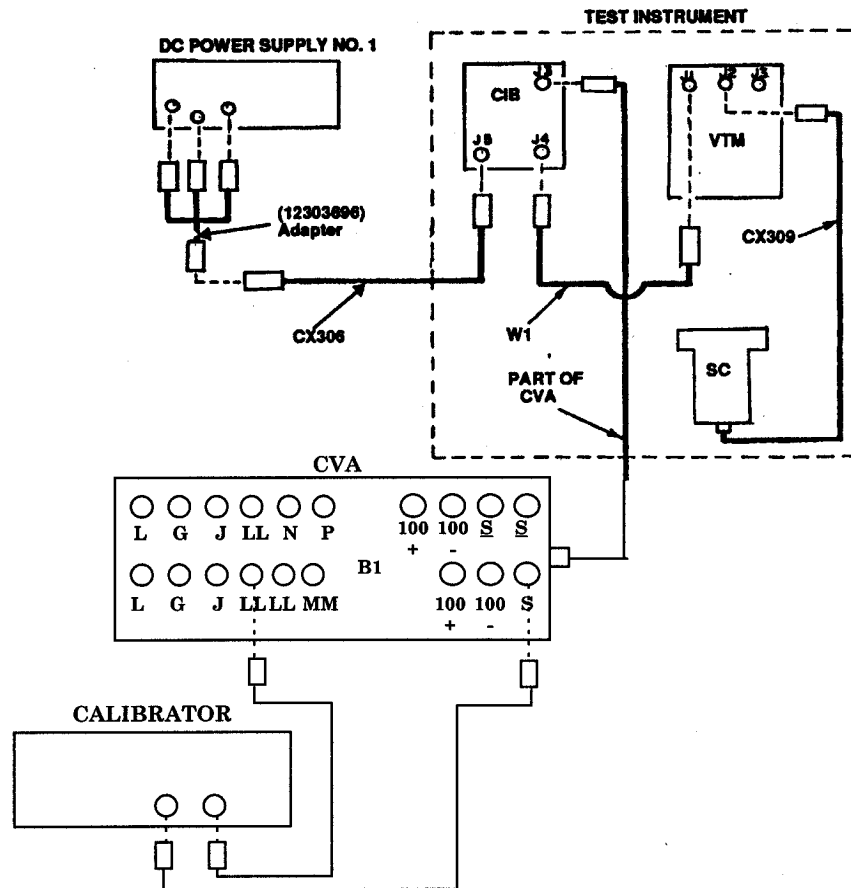

Figure 9. Frequency accuracy – equipment setup.
(1) Connect equipment as shown in figure 9.